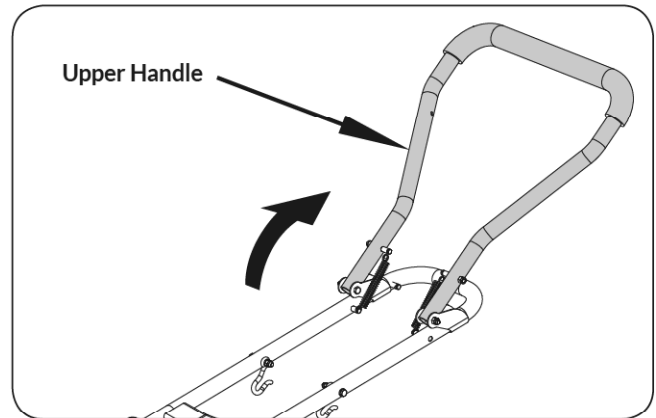

Figure 3a
1. Unfold the handle. (See **Figure 3a**)